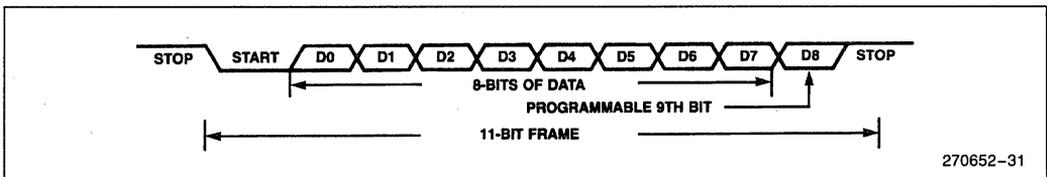

Figure 39. Serial Port Frame Modes 2 and 3
Mode 2 is the asynchronous 9th bit recognition mode. This mode is commonly used with Mode 3 for multi-processor communications. Figure 39 shows the data frame used in this mode. It consists of a start bit (0), 9 data bits (LSB first), and a stop bit (1). When transmitting, the 9th bit can be set to a one by setting the TB8 bit in the control register before writing to SBUF (tx). The TB8 bit is cleared on every transmission, so it must be set prior to writing to SBUF (tx) each time it is desired. During reception, the serial port interrupt and the Receive Interrupt (RI) bit will not be set unless the 9th bit being received is set. This provides an easy way to have selective reception on a data link. Parity cannot be enabled in this mode.